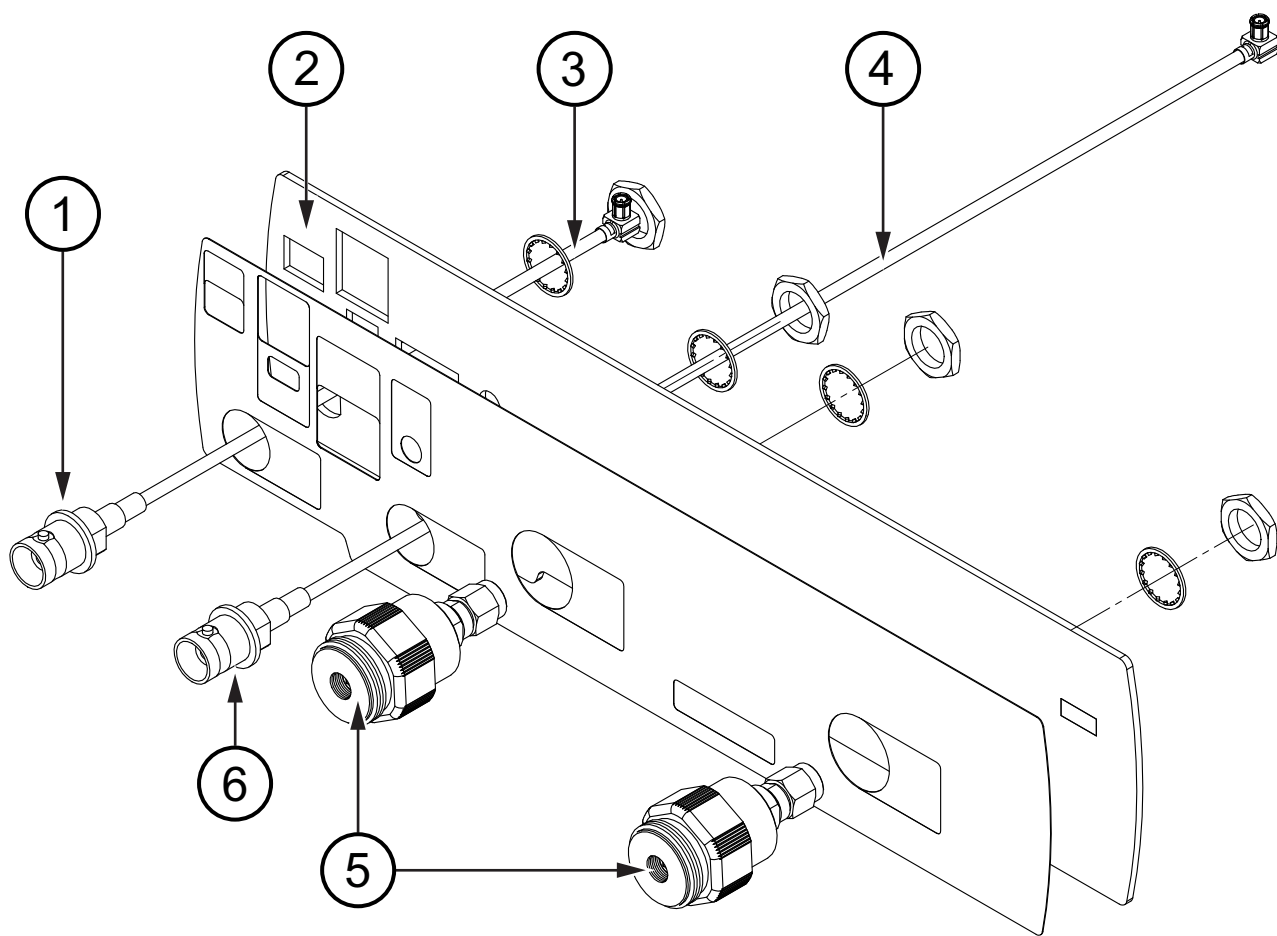

Figure 4-25. Connector Panel for Option 714, Option 720, Option 730, and Option 740
Refer to Figure 4-25 on page 4-32.
Refer to item 5 in Figure 4-25.